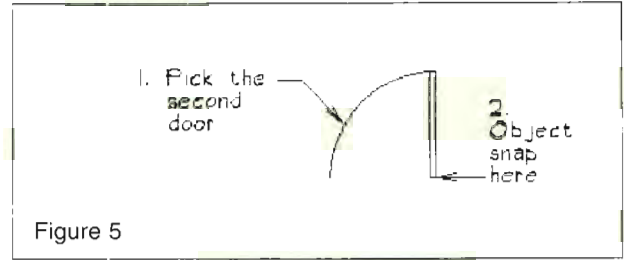

Figure 5
5. With Group still on, pick anywhere on the door, as shown step 1 in Figure 5. It will become gray and dashed.
7. Object snap to the corner of the door hinge, as shown in step 2, Figure 5.